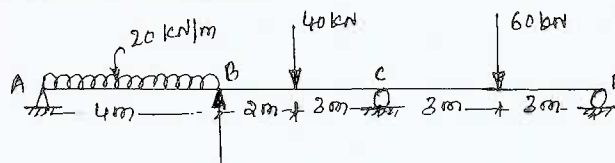

Fig.Q7
- 7 Analyse the continuous beam shown in Fig.Q7, by Clapeyron's three moment theorem. Draw SFD and BMD. Take EI is constant. (20 Marks)